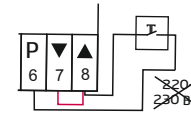

Figure 2. Button connection
- a) hardware-based: remove voltage from the device, install a jumper between contacts 7 and 8, apply voltage to the device (see Figure 2).